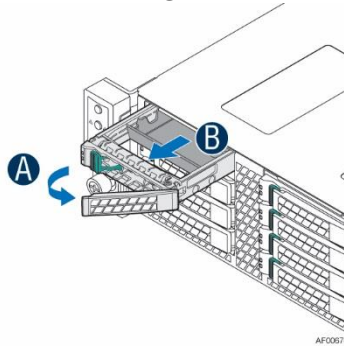

Figure 40. Installing a 2.5" HDD or SSD – removing the carrier
1. Remove the drive carrier from the chassis by pressing the green button, opening the lever (A) and pulling the carrier out of the drive bay (B) as pictured in Figure 40.